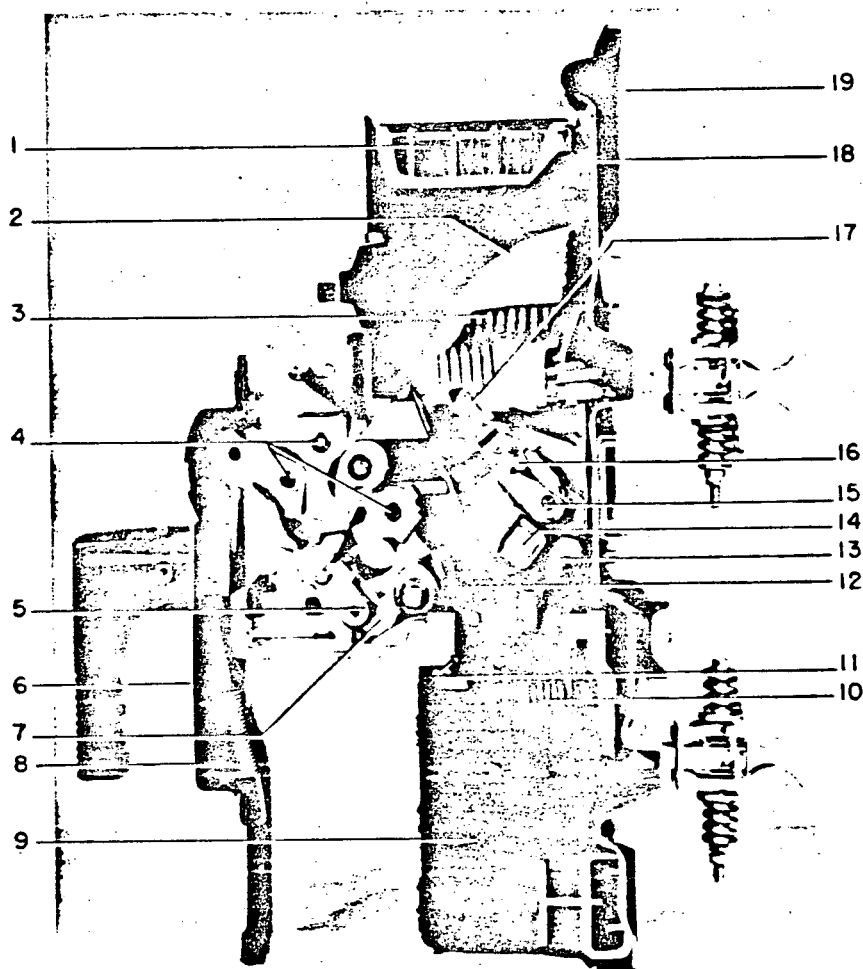
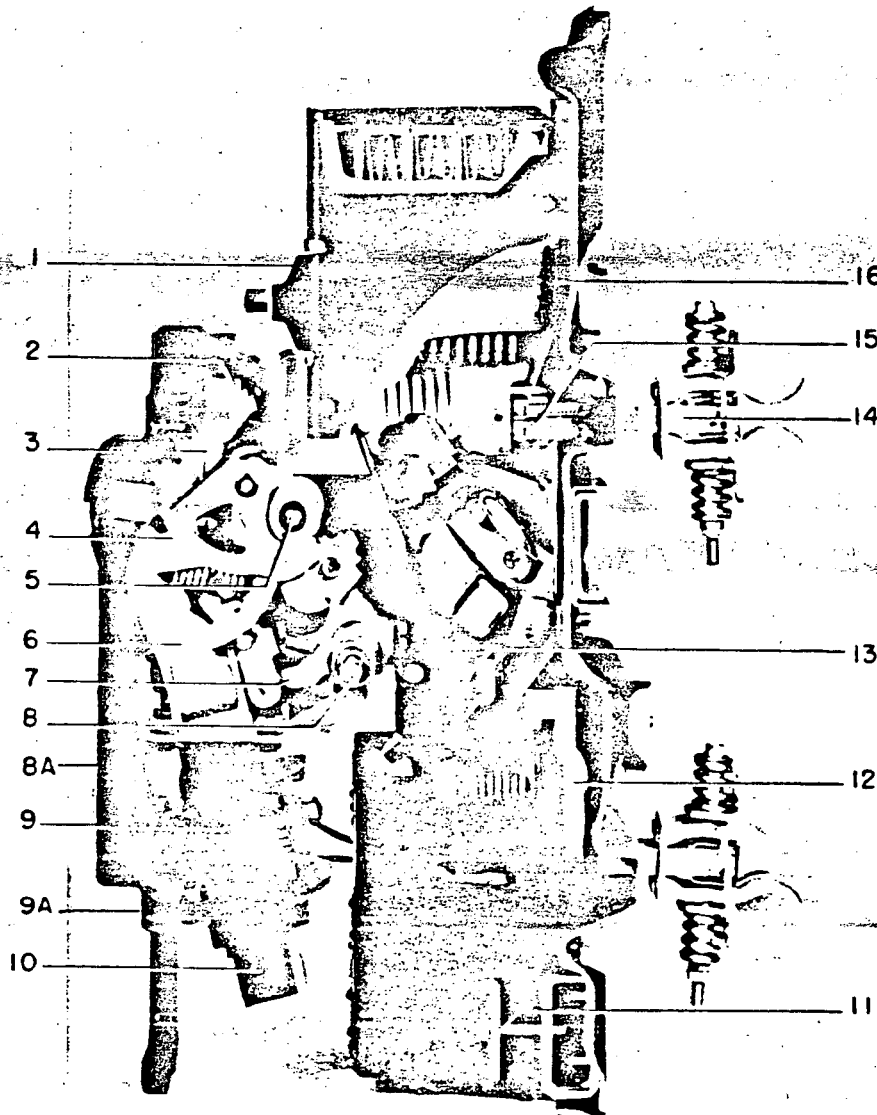

Figure 6. (8024516) Cut Away Model of Manually Operated AK-2 Breaker
Figure 5. (8024457) Cut Away Model of Electrically Operated AK-2 Breaker
The closing solenoid consists of a magnet, armature and coil. This assembly is located directly beneath the breaker mechanism to which it is connected by a link which ties the upper end of the armature to the spring carrier of the mechanism. (See Figure 5.)
5. Remove handle reset spring (8) Figure 6, and escutcheon is free of breaker.
The breaker mechanism is tripped by the displacement of the trip latch (7), Figure 6. Looking at the breaker from the right hand side as in Figure 5, the tripping movement of the latch is counter-clockwise. Operation of any of the automatic trip devices or the trip push button causes the latch to move in the tripping direction. When the latch moves off the trip latch roller (7), the remaining force in the operating spring causes the mechanism toggle to collapse, resulting in the opening of the breaker contacts.
listed is that of proper mechanism latch engagement, the amount of engagement between the latch (7) and latch roller (5), Figure 6. This is the only adjustment that is required on the breaker mechanism, and proper latch engagement is obtained in the following manner:
(NOTE - Before making latch adjustments, check to make sure that the buffer paddle which stops against the end of the latch adjustment screw is rigidly fastened to the trip shaft. Hold the trip shaft (8), Figure 5, steady and attempt to move the buffer paddle. If any relative movement between the two is noted, tighten the fasteners holding the buffer paddle to the trip shaft.)
1. Remove arc quencher retainer (1), Figure 5 by loosening the two captured nuts with a 7/16" wrench.